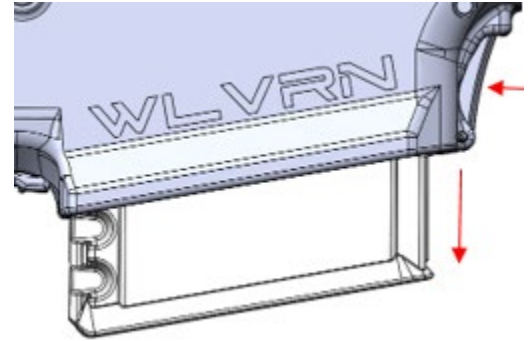

Figure 42: Removing 5.56 Conversion Block
3. Push the magazine release while pushing the magazine conversion latch in and down. The magazine spacer should slide out the bottom of the magazine well. (Figure 42)